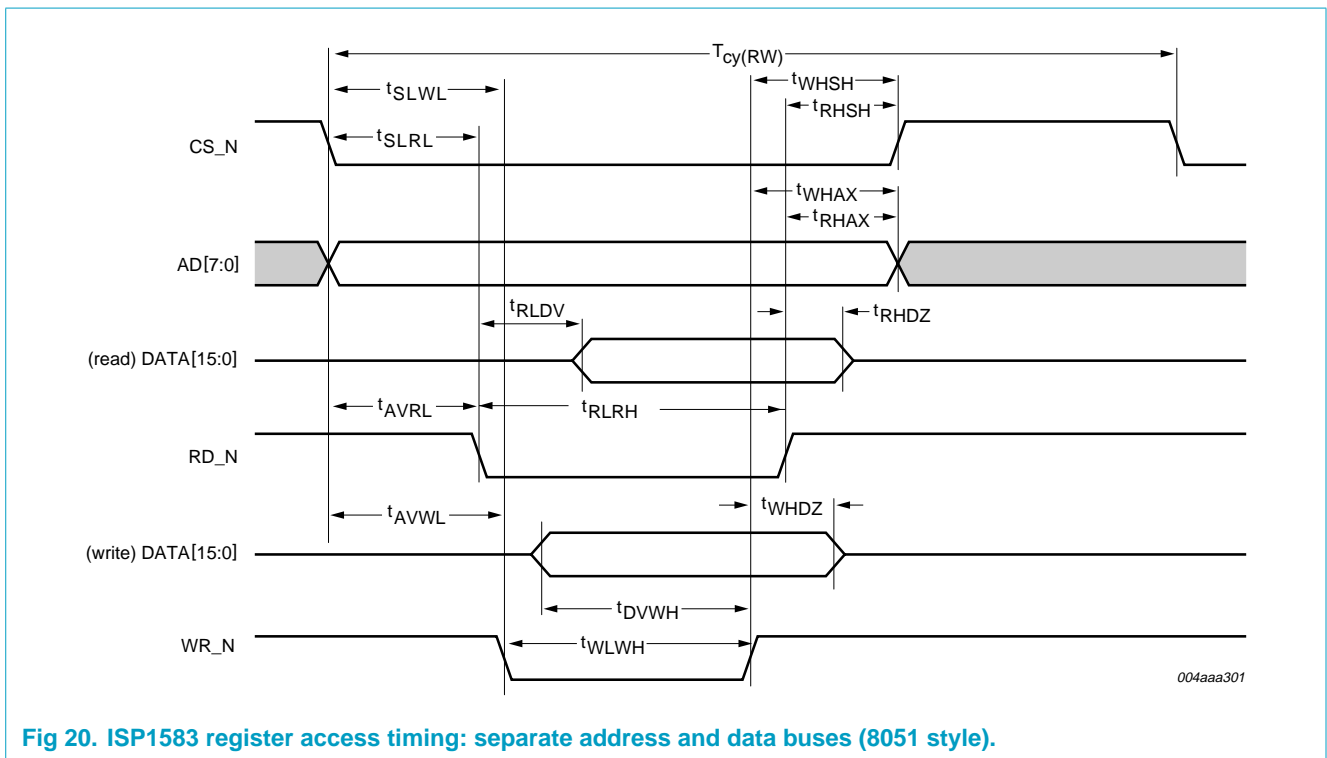

Fig 20. ISP1583 register access timing: separate address and data buses (8051 style).
- MODE0 = H: 8051 style; see Figure 20